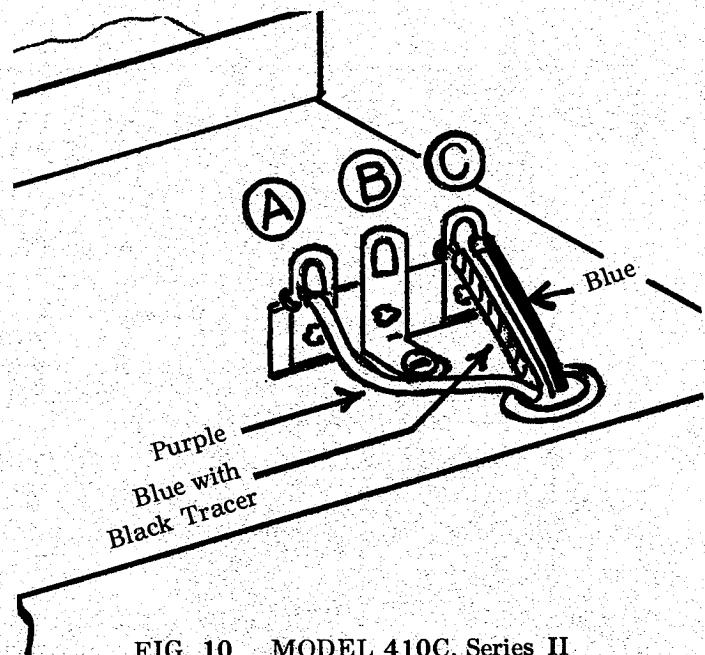

FIG. 10 MODEL 410C, Series II
- (a) Remove cabinet from 410C and locate 3 lug terminal strip on top of the chassis. See drawing for terminal location. Drawing shown in Series II configuration, FIG. 10.